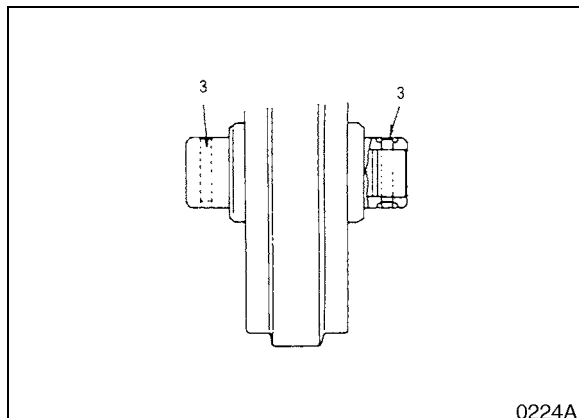

Figure 19
2. Separate the pin (3, Figure 19) from the bearing (1).